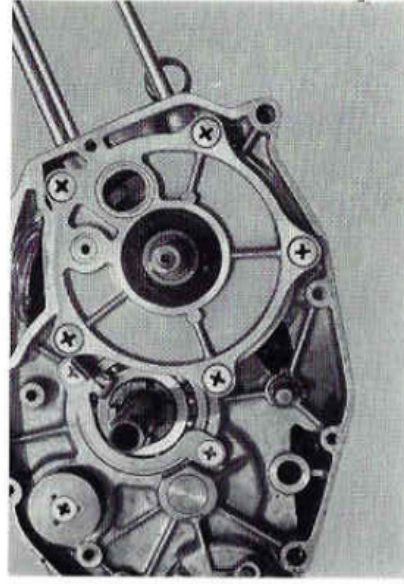

Fig. 8-2-24
25. Remove the **outer valve seat** by loosening 5 cross head screws with a screw driver. The primary pinion spacer and the right crankshaft oil seal can be removed usually together with the outer valve seat. (Fig. 8-2-24)